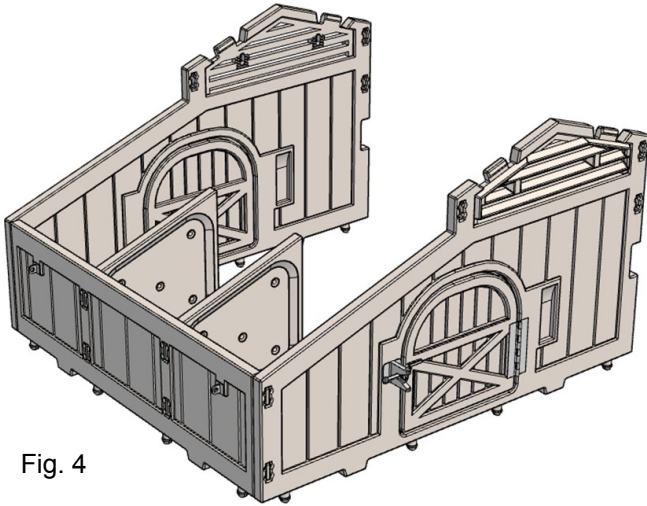

Fig. 4
Step 4: Insert the other two tabs on the Nest Side Wall into the two slots on the Front Wall. (Fig. 4)